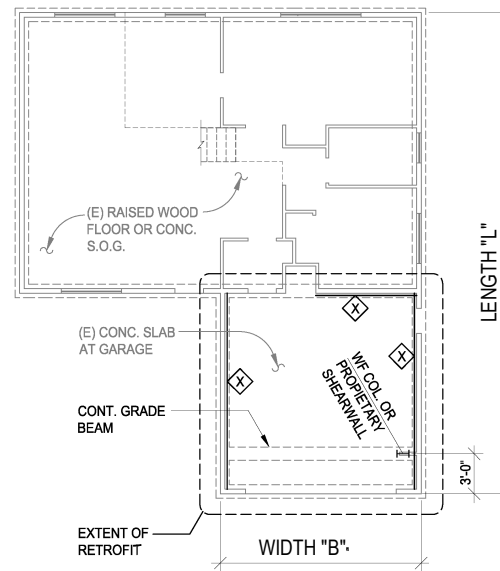

Figure 4
- The retrofit shall include bracing elements at the garage front and side walls, and wall separating the garage use from the residential use (See Figures 4 and 5). Bracing elements at the front wall are permitted to be of any of the bracing element types in listed above. Bracing elements at the side walls and wall separating the garage use from the residential-use are to be wood structural panel shear walls.